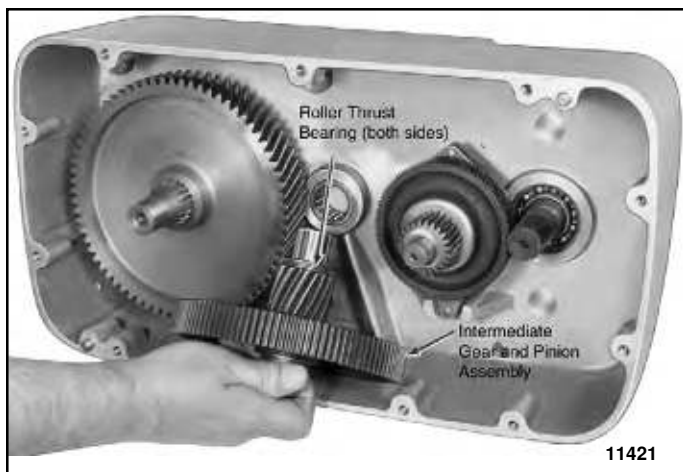
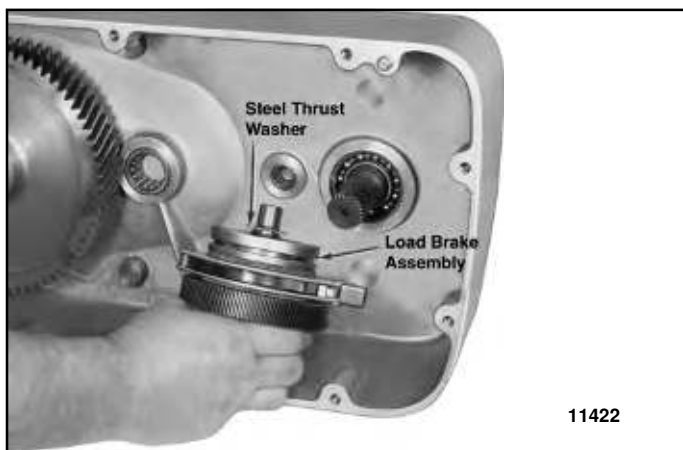

Figure 5-4. Removing Intermediate Gear and Pinion Assembly
Figure 5-5. Removed Load Brake Assembly
b. To inspect gearing, pull out intermediate gear and pinion assembly and roller thrust bearings (Figure 5-4), and load brake assembly (Figure 5-5). Do not remove drum gear unless visual inspection indicates replacement is necessary.
h. Install gearing and load brake assembly in gearcase in reverse order of disassembly. Be certain roller thrust bearings are installed at both ends of intermediate gear shaft as shown in Figure 5-4 and that thrust washers are properly installed at both ends of load brake shaft as noted below:
- (1) A steel thrust washer with 5/8" I.D. must be installed on the brake flange end (end opposite pinion) of load brake as shown in Figure 5-5.
- (2) A bronze thrust washer with a lug on one side goes on pinion end of load brake shaft and it must be installed so that its lug engages the special slot located on the spot face surrounding the load brake bearing bore inside gearcase cover. Use heavy grease to hold it in place on cover as cover is installed.